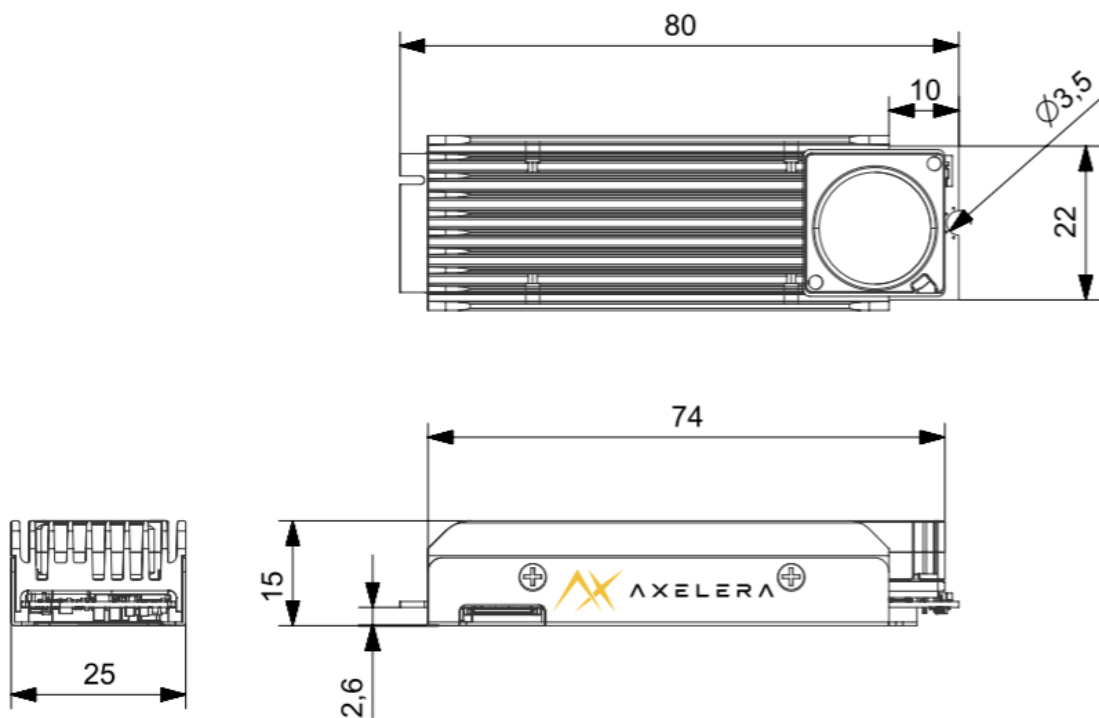

Figure 3: The fan-cooled heatsink for the Metis M.2 Max card
- Figure 3 shows the fan-cooled heatsink for the Metis M.2 Max card.